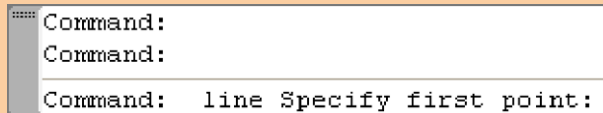

Fig. 2.3 The prompt appearing at the command line in the Command palette when **Line** is 'called'
- b. The prompt **Command: _line Specify first point:** which appears in the command window at the command line (Fig. 2.3).